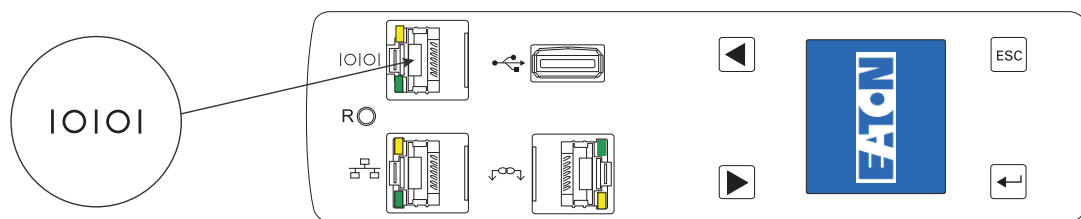

Figure 36. Connecting the EMP to the ePDU RJ-45 Serial Port Connector (0U Models)
3. Locate the Ethernet cable dedicated to the EMP. Connect one end of the cable to the RJ-45 connector on the EMP, then connect the other end of the cable to the serial connector on the ePDU (see Figure 36).